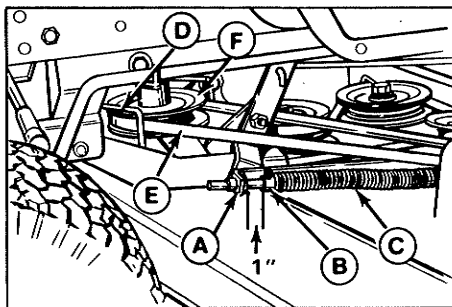
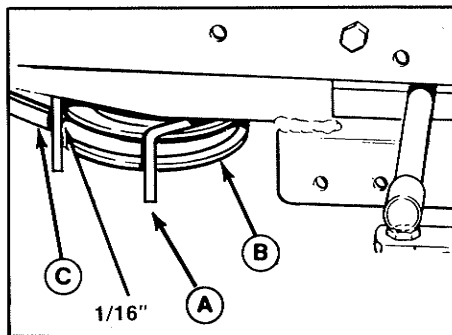

Figure 31. Mower Drive Belt Tension Adjustment - 42" & 48"
Figure 32. Right-Hand PTO Pulley Belt Stop
2. Measure the distance between the PTO rod guide (A, figure 31) and the set collar (B). The distance should measure one inch. If not, proceed to step 3.
4. Loosen the setscrew in the set collar (B). Move the rod forward to increase gap, or backward to decrease gap. Retighten the setscrew.
There are two belt stops at the PTO pulley; one on the left (D, figure 31) and one on the right (A, figure 32). With the PTO lever engaged, measure the distance between the belt stop and the belt. There should be 1/16 inch (1.5 mm) clearance between each belt stop and the belt. To adjust a belt stop, loosen its mounting capscrew, move the belt stop, and retighten the capscrew. Recheck the measurement.